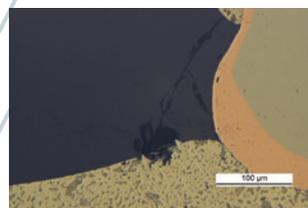

Fig. 4: Crack and fracture damage in glass diode caused by coarse grinding SiC Foil/Paper
**Grinding:** Fracture of brittle constituents such as glass fibers or ceramics (Fig. 4).
Depending on the size of the component and number of samples to be prepared either manual, semi-automatic or fully automatic grinding and polishing methods can be used, both for parallel and cross-sections. As a rule, plane grinding with coarse abrasives should be avoided as it can damage the brittle materials and introduce severe deformation in the soft metals (see Fig 4). For excellent flatness, fine grinding with diamond on a rigid disc (MD-Largo) is recommended, instead of grinding on silicon carbide Foil/Paper. Subsequent diamond polishing on a silk cloth retains the flatness very well. In case of embedded abrasive particles in soft metal, the diamond polish needs to be extended until the particles are removed. The final polish with colloidal silica (OP-U NonDry) should be brief to avoid relief.